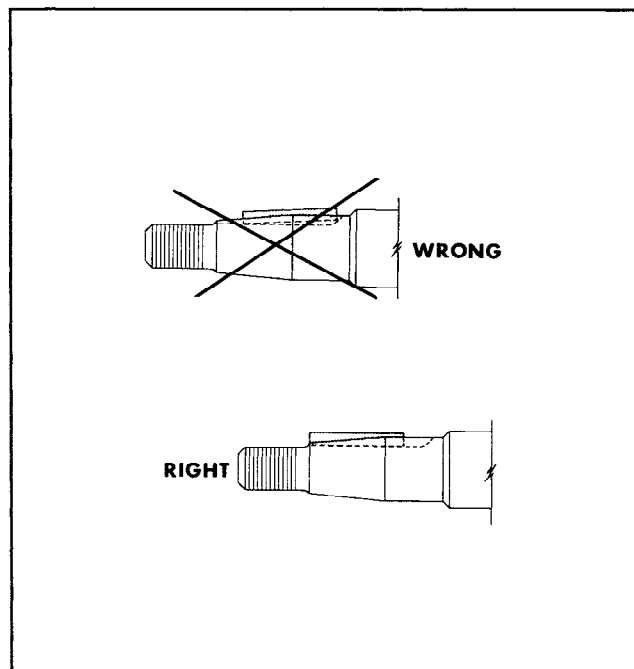

Figure 12-43. Installing A Square Flywheel Key. Models K91, K161 And K181
1. Position key properly in keyway as shown in Figure 12-43 and carefully guide key slot in flywheel hub over the key while installing to avoid pushing the key inward.